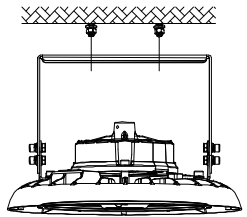
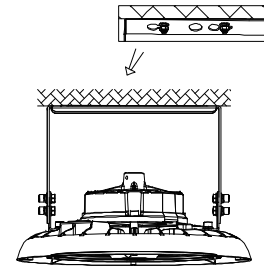

Figure5
Figure6
3. Align the bracket hole with screw hole(Figure5) and push the fixture to one side(Figure6) and fix it.